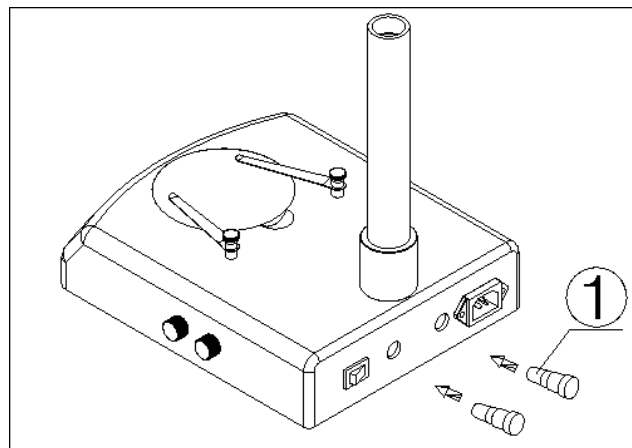

Fig. 7
- 9.1) Turn the adjustable light knob according to the sign marked on the base, along the clockwise the brightness will be added, otherwise it will be weakened. (Fig. 7)
- 10.2) Renew the fuse and mount it in an adverse way. (Fig. 7)